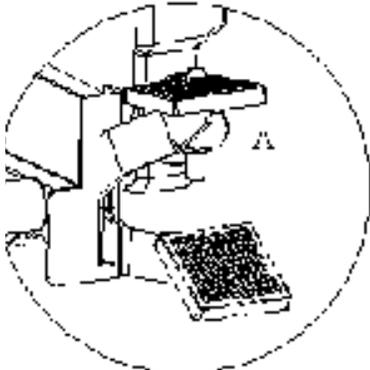

Figure4
- Lift the brush pedal to lower the brush disk down to the ground. (Seen in figure4)